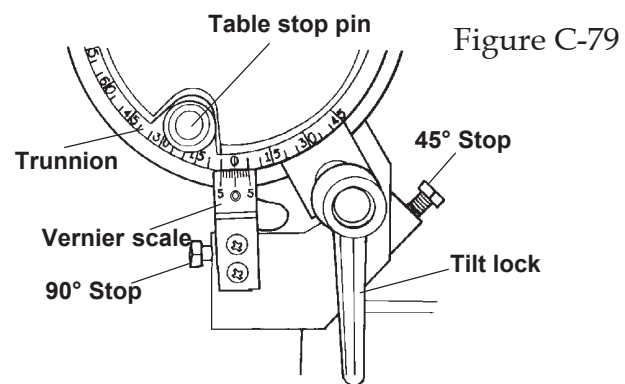

Figure C-79
- c. **To determine the table tilt angle,** use the trunnion and the vernier scale. If the desired angle is divisible by 5, align the angle on the trunnion with 0° on the scale. To set an angle that is not divisible by 5, first find the nearest angle that is divisible by 5 and is smaller than the desired angle. For example, if you want to tilt the table to 17°, the nearest angle that is smaller than 17° but divisible by 5 is 15°. Next, subtract the smaller angle from the desired angle, $15^\circ - 17^\circ = 2^\circ$. Tilt the table so that the 15° mark on the trunnion goes 2° past the 0° mark on the scale. See Figure C-79.
- e. **To remount the worktable,** loosen the table height lock and place the support tubes in the carriage. For most operations, the trunnion (see figure C-79) should be facing the front of the Mark 7. For under-table operations such as the shaper, the trunnion should be facing the back of the Mark 7. Gently rock the table front-to-back until the racks engage the pinions and the tubes drop smoothly into the holes. Sometimes it helps to slowly turn the table height crank clockwise while you rock the table. This will position the support tubes at exactly the same height and get the racks started properly in the pinions. Lower the table, loosen the tilt lock, set the desired position and secure the tilt lock.